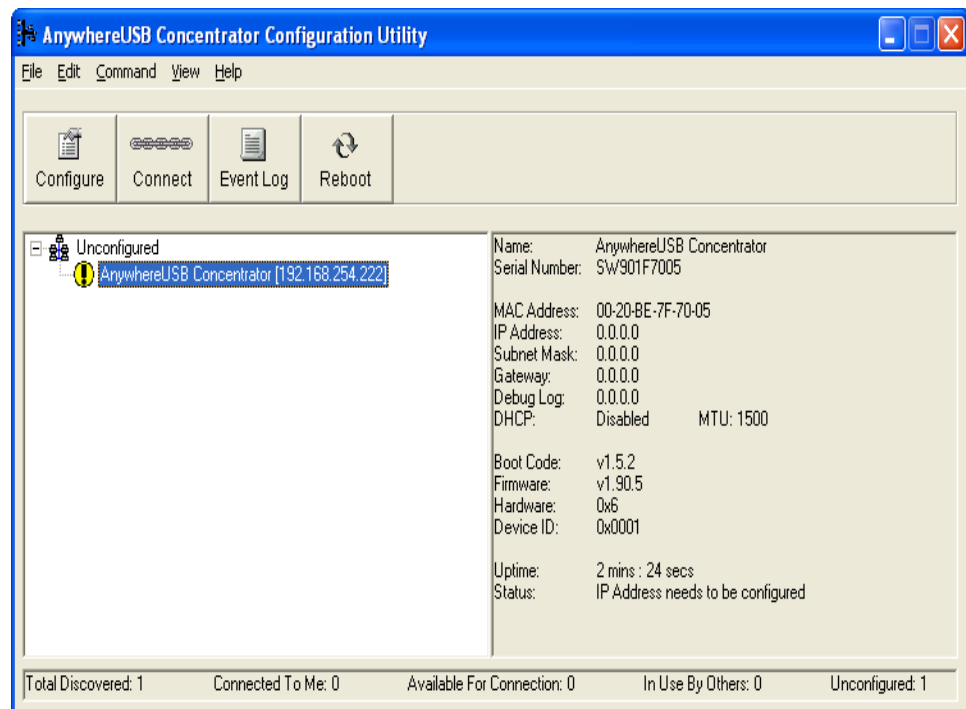

Figure 4
1. Launch the AnywhereUSB Configuration Utility from the Start menu. A new AnywhereUSB will have a default IP address of 0.0.0.0 (see Figure 4) and must be configured before it can be used by the host PC. Each AnywhereUSB is identified by its IP address. If the AnywhereUSB is unconfigured, then the serial number can be used for identification. Unconfigured AnywhereUSBs are listed separately. For example, the AnywhereUSB with serial number SW901F7005 below has not been configured.